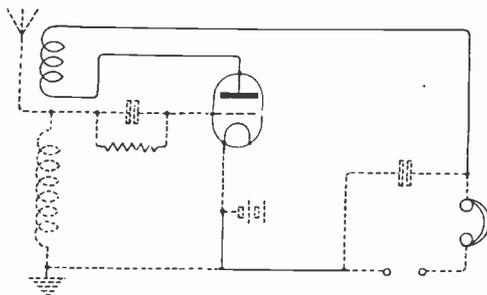

Fig. 3.
(3) With H.T. on switch L.T. on and off. A click at "on" and another louder one at "off" should be heard. No result means a dis. in the circuit shown with a full line in Fig. 3. Examine connections of reaction coil and open plate pin of valve.